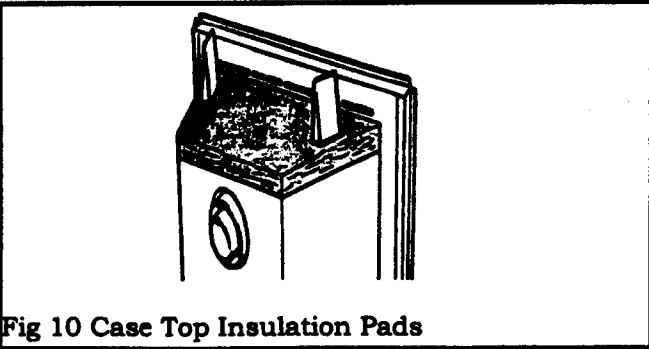

Fig 10 Case Top Insulation Pads
6.7 Fit the two insulation pads on the top of the case with the top standoffs protruding (Fig. 10).